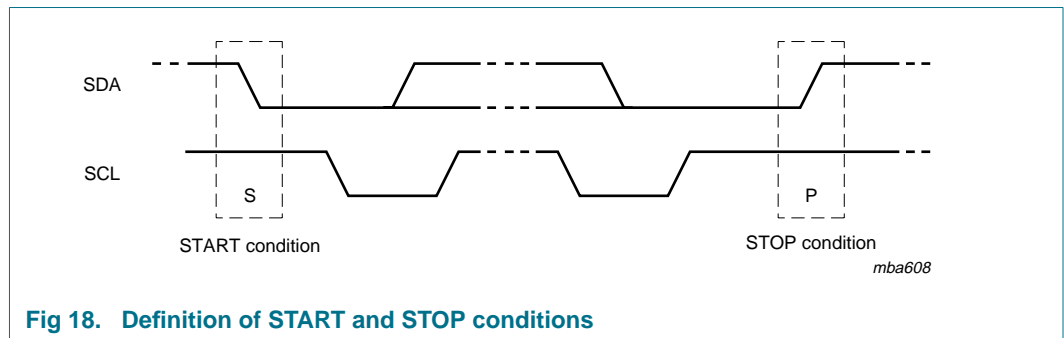

Fig 18. Definition of START and STOP conditions
Both data and clock lines remain HIGH when the bus is not busy. A HIGH-to-LOW transition of the data line while the clock is HIGH is defined as the START condition (S). A LOW-to-HIGH transition of the data line while the clock is HIGH is defined as the STOP condition (P) (see Figure 18).